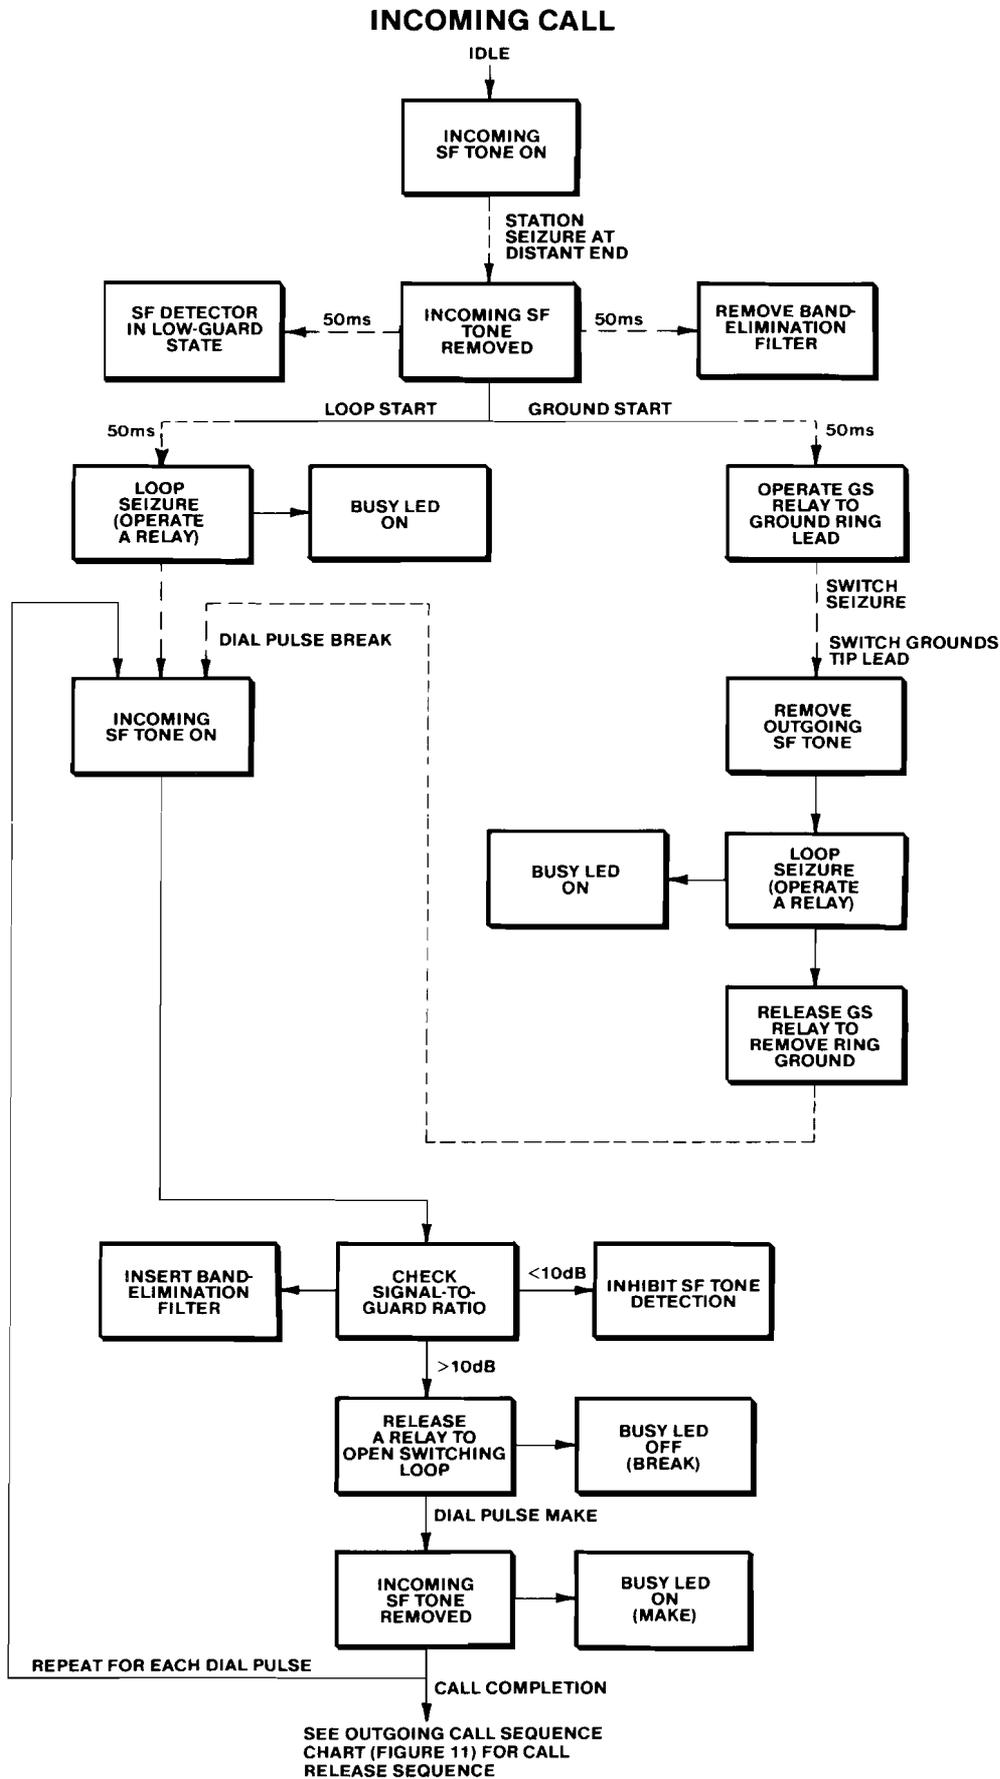

figure 10. Function sequence flowchart, incoming call
7.01 The *troubleshooting guide* in this section may be used in conjunction with the function sequence flowcharts (figures 10 and 11) in section 4 of this practice to assist in the installation, testing, or troubleshooting of the 6178 4Wire-to-2Wire SF-to-FXO Intermediate Repeater module. The guide is intended as an aid in the localization of trouble to a specific module. If a module is suspected of being defective, a new one should be substituted and the test conducted again. If the substitute module operates correctly, the original module should be considered defective and returned to Tellabs for repair or replacement. We strongly recommend that no internal (component-level) testing or repairs be attempted. Unauthorized testing or repairs may void the module's warranty. Also, if the module is part of a registered system, unauthorized repairs will result in non compliance with Part 68 of the FCC Rules and Regulations.